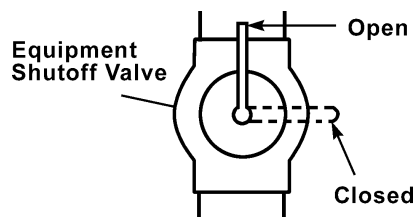

Figure 11-Equipment Shutoff Valve
1. Open equipment shutoff valve (see Figure 11).
4. Check all joints from equipment shutoff valve to control valve (Figure 11). Apply mixture of liquid soap and water to gas joints. Bubbles forming show a leak.
1. Close equipment shutoff valve (see Figure 11).